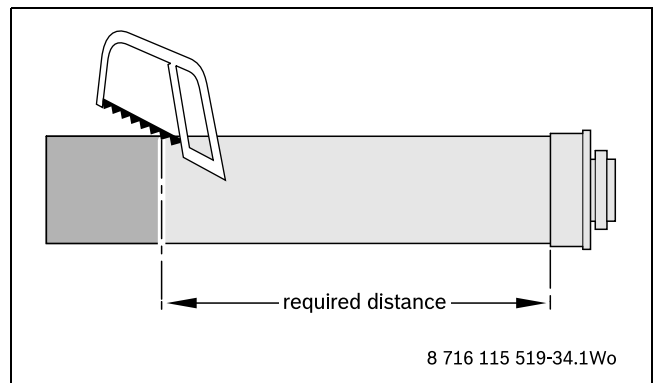

Fig. 33 Cutting a flue extension
- ▶ Mark the flue extension to the required distance, measuring from the socket end as shown in fig. 33.